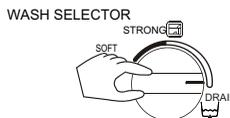

Figure 5
- ### 6. After washing, the buzzer will ring. Set the "WASH SELECTOR" at "DRAIN". (Figure 5).